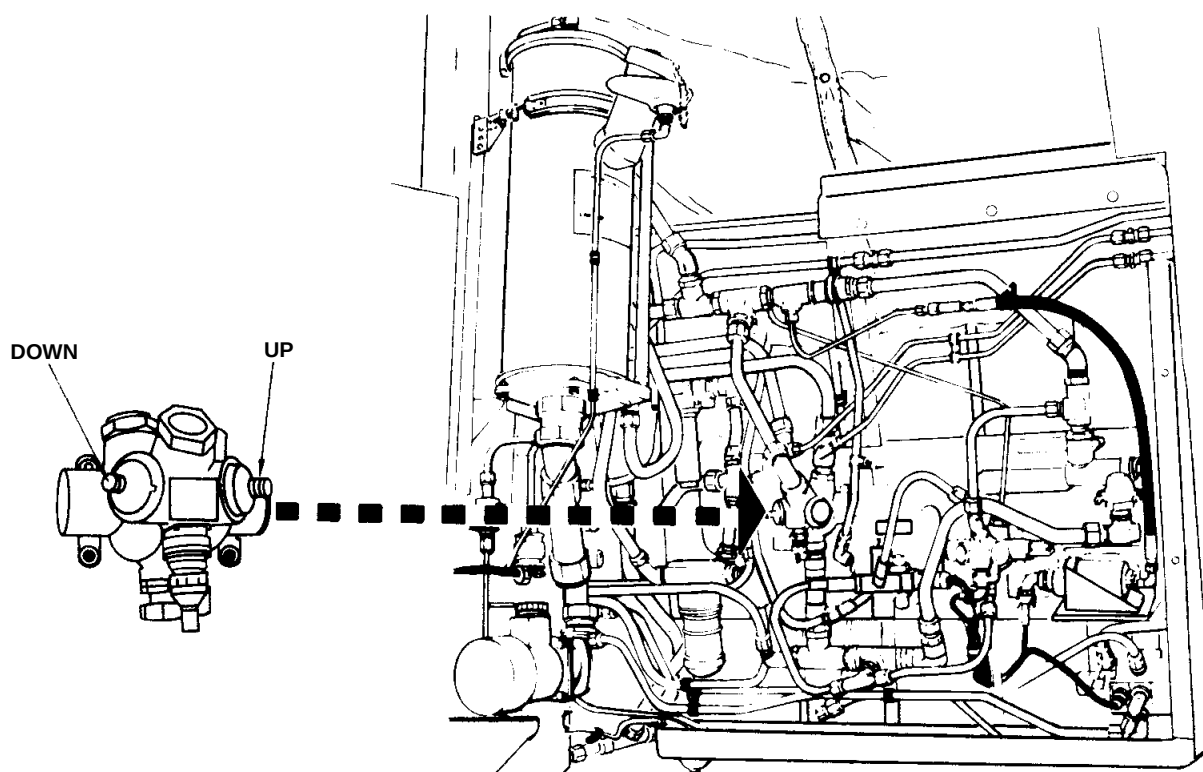

Figure 3-8
4. Depress landing gear selector valve DOWN button and hold, if required, to lower the landing gear (figure 3-8).